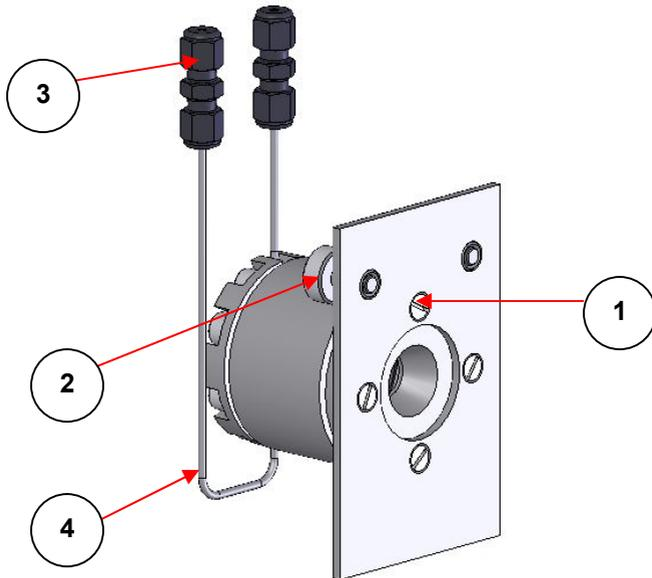

Fig 2. Fitting of the 3'' x 2'' slide mount backplate to the High Pressure Liquid Cell
1. Secure the 3" x 2" slide mount backplate to the back of the High Pressure Liquid Cell body using the four cross head screws (supplied) in the fixing holes (1). (See **Fig 2**). Ensure the slide mount backplate is fixed to the cell body with the two thumbscrew fittings (2) being at the top as seen in Fig 2..
2. Slide the 3" x 2" back plate now fixed to the High Pressure Liquid Cell into the 3" x 2" mount plate of the spectrometer and secure using the two thumbscrews (2).
3. Connect the High Pressure Liquid Cell to the sample flow stream pipework via the 1/16" O.D Swagelok connectors (3).